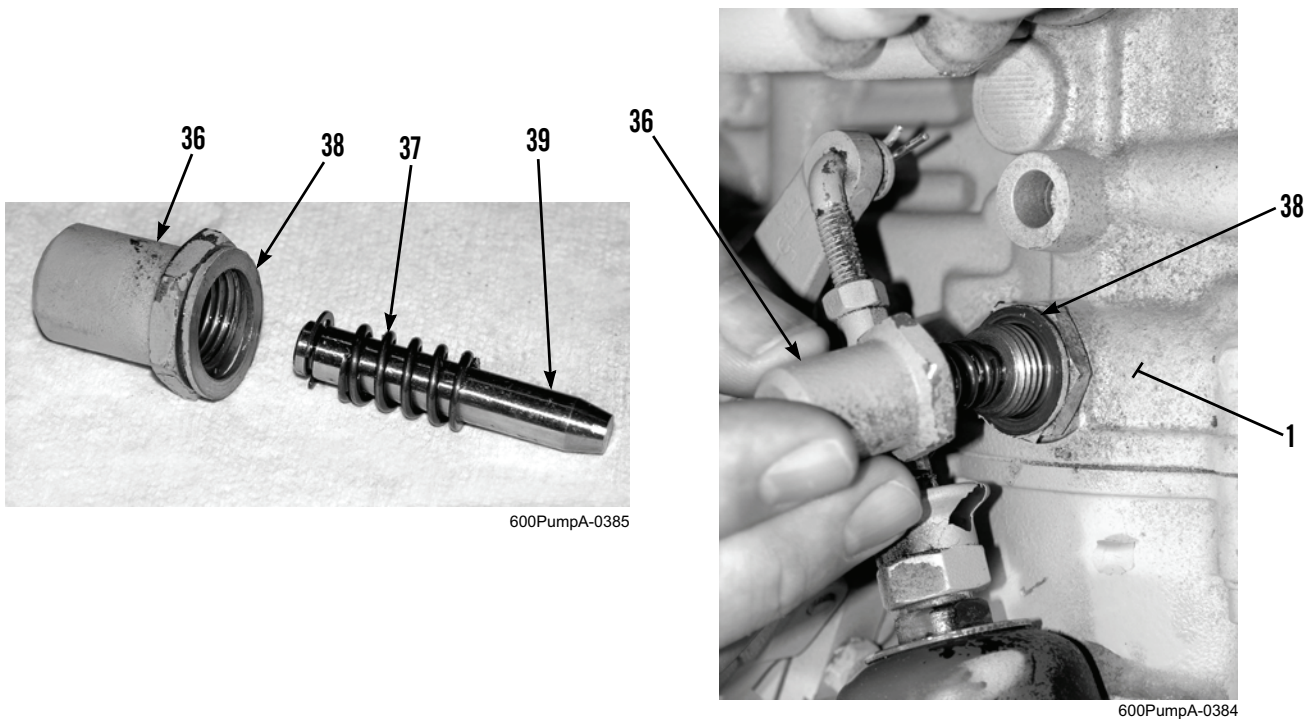

Figure 26. Positioning Pin Installed (Unlocked Position).
22. Install positioning pin (Figure 26, Item 39) through compression spring (Figure 26, Item 37).
23. Install new copper sealing ring (Figure 26, Item 38), positioning pin (Figure 26, Item 39) with compression spring (Figure 26, Item 37), and secure on fuel injection pump (Figure 26, Item 1) with bolt sleeve (Figure 26, Item 36).